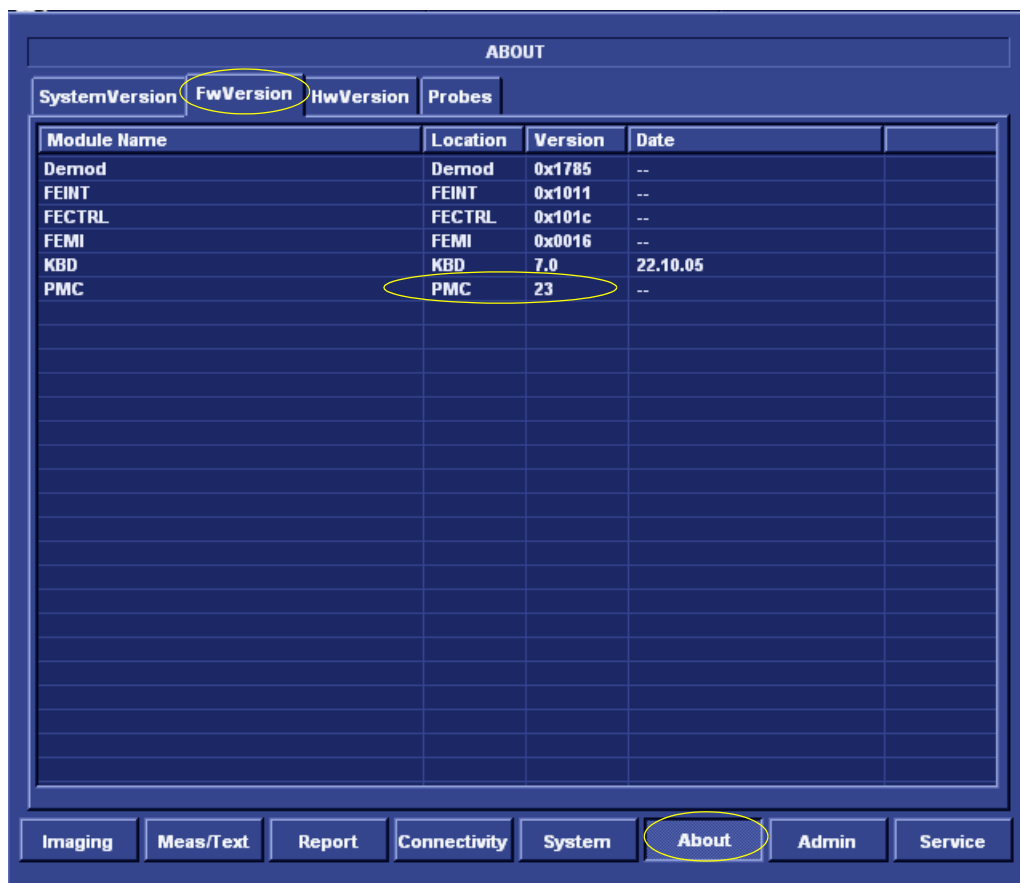

Figure 8-134 Checking the PMC Version
- 17) Press the **About** button and activate the **FwVersion** tab; verify that PMC version is now 23, as shown in the example in Figure 8-134 below.